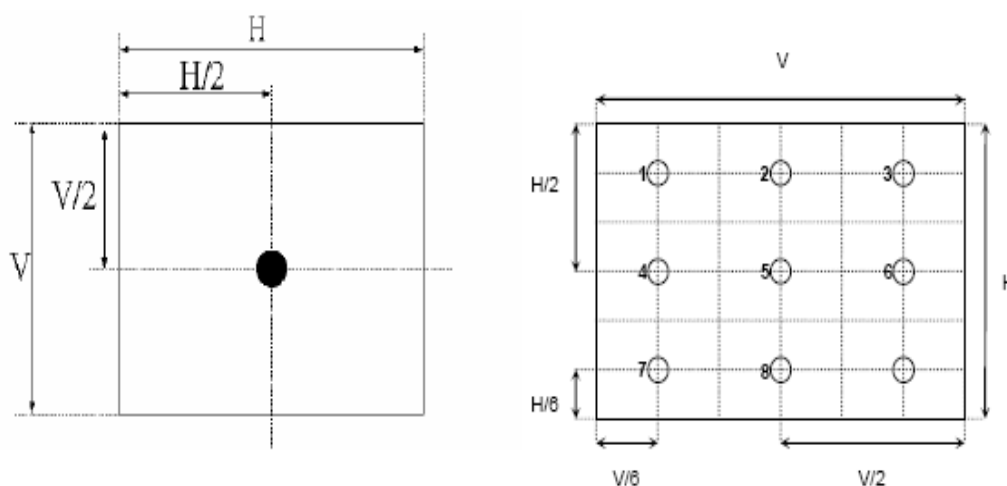

FIG. 2 Luminance measurement positions
1. Contrast ratio will be measured in the center of panel (point 5 in Figure 2), Contrast Ratio (CR) is defined mathematically as:
2. Surface luminance is luminance value at point 5 across the LCD surface 50cm from the surface with all pixels displaying white. From more information see FIG 2. When $V_{\text{DDB}} = 24\text{V}$, $I_{\text{DDB}} = 6.04\text{A}$. $L_{\text{WH}} = L_{\text{O51}}$. Where L_{on5} is the luminance with all pixels displaying white at center 5 location.